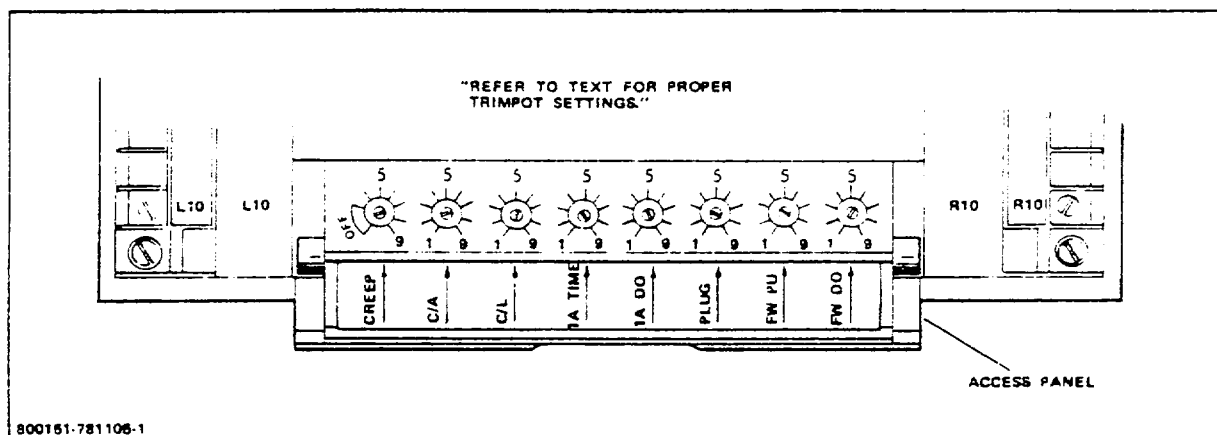

Figure 3-3. Trimpot Adjustments
1. Open the hinged access panel on the control card that covers the control board trimpots (Fig 3-3).